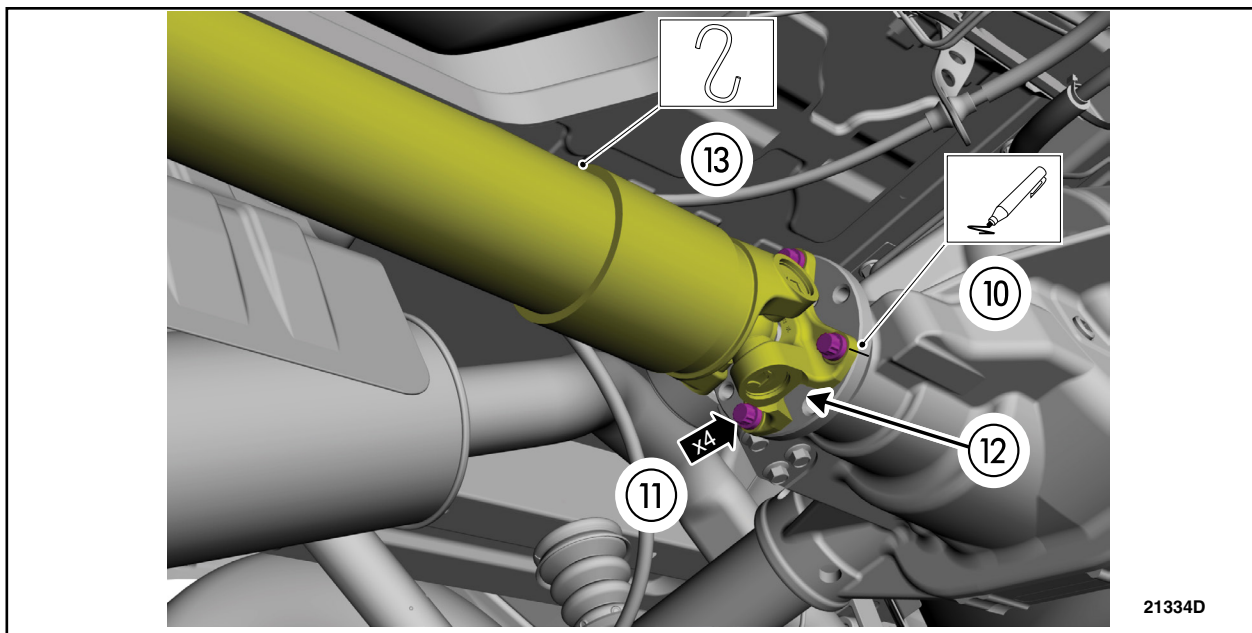

FIGURE 4
10. Note the index mark on the axle flange (yellow dot). If yellow dot is visible on driveshaft but not on the pinion flange, add corresponding mark on pinion flange. See Figure 4.
11. Remove the driveshaft flange to pinion flange bolts. See Figure 4.
12. Using a small pry bar, separate the driveshaft flange from the pinion flange. See Figure 4.
13. Support the driveshaft. See Figure 4.